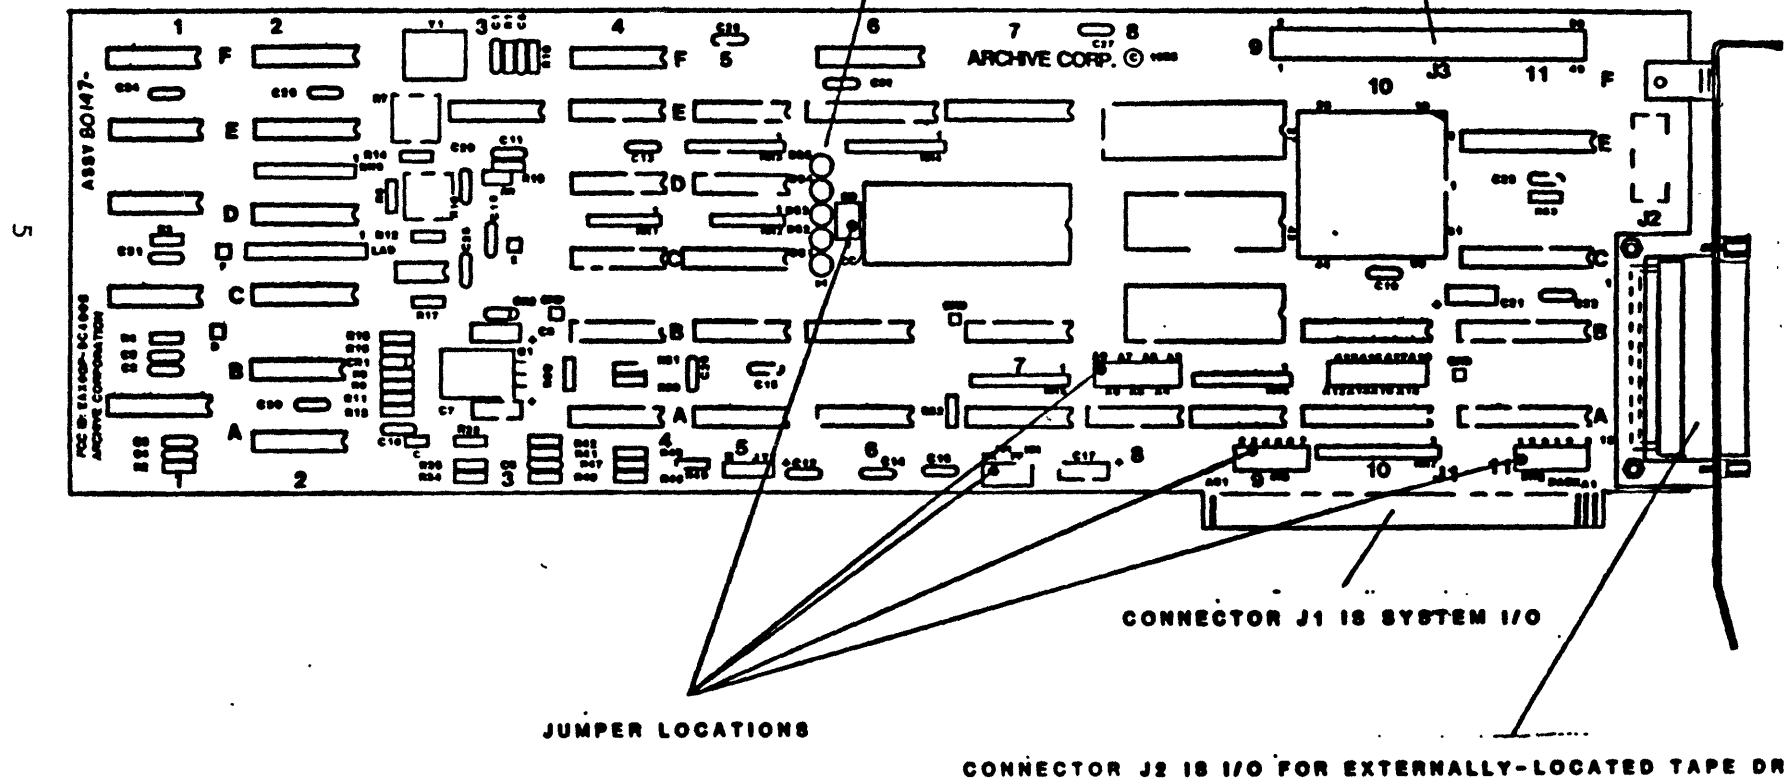

Figure 1.2 SC-499 Jumpers, indicator, and connector locations
The tape controller jumpers are installed at the factory and the I/O board connectors are shown in Figure 1-2.
3. Connect the tape drive interface cable to controller connector J3 (see Figure 1-2), which is a 50-pin (male) header connector.
8. If the tape drive is mounted outside of the System Unit, connect the tape drive interface cable to controller connector J2 (see Figure 1-2), which is a 25-pin (female) D-type, subminiature connector. J2 is accessible from the System Unit rear panel.